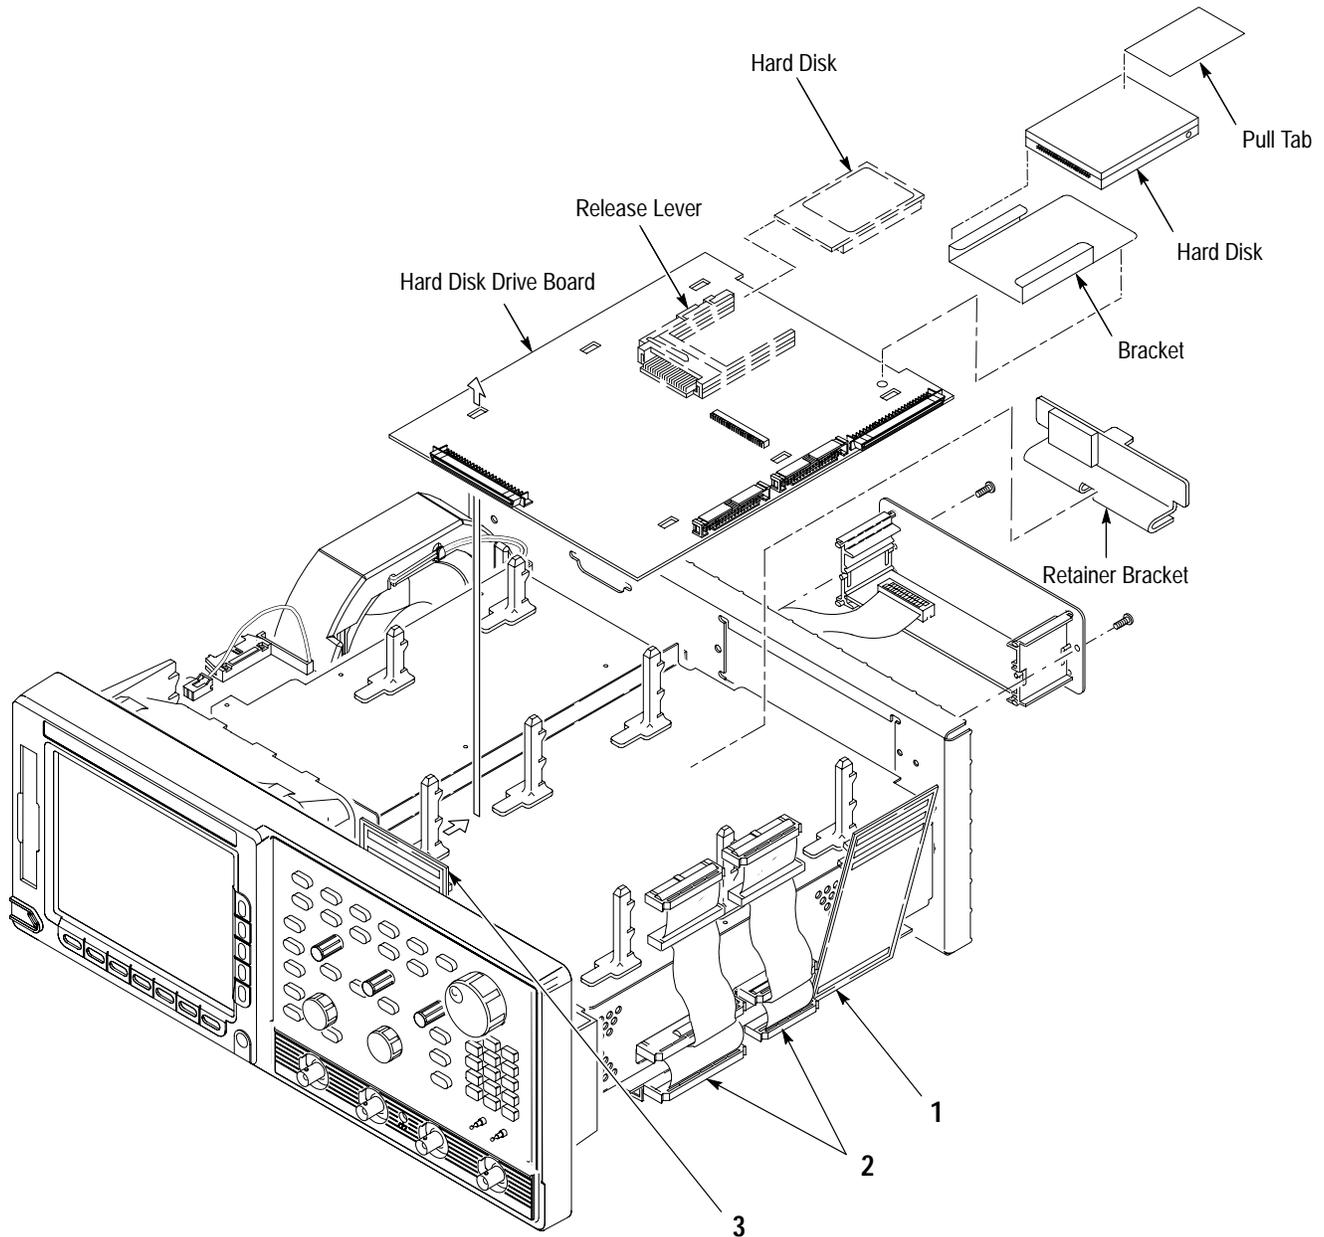

Figure 6-16: Hard disk removal
3. *Remove the hard disk:* Use Figure 6-16 as a guide.